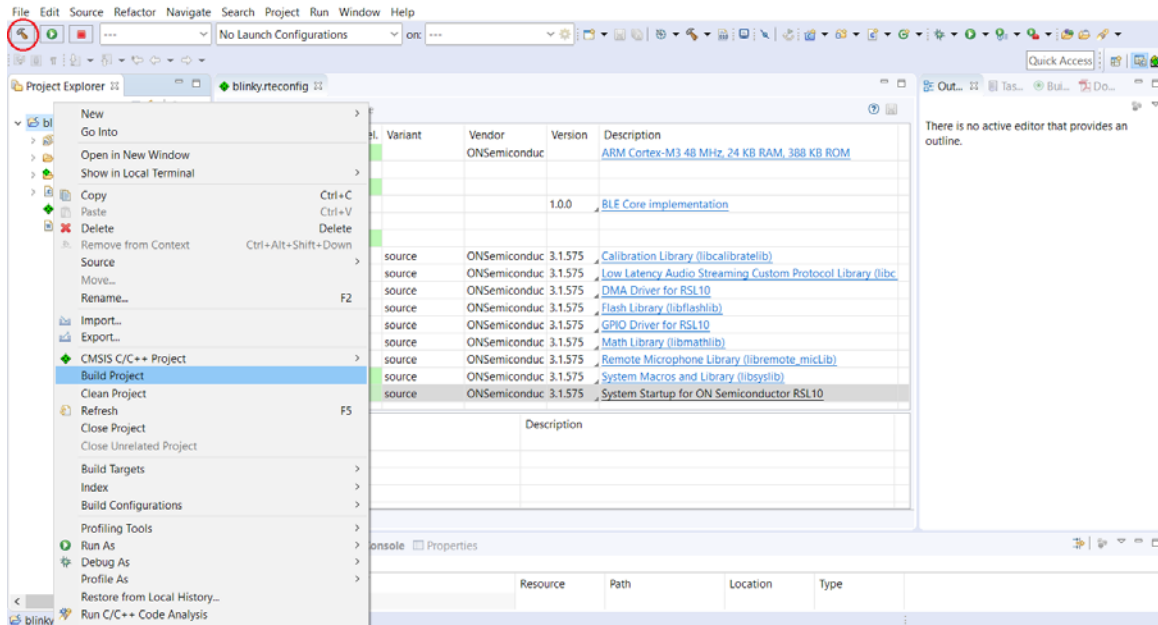

Figure 7. Starting to Build a Project in the onsemi IDE
1. Right click on the folder for *blinky* and click **Build Project**. Alternatively, you can select the project and click the Build Project icon, which looks like a hammer, as shown in Figure 7.